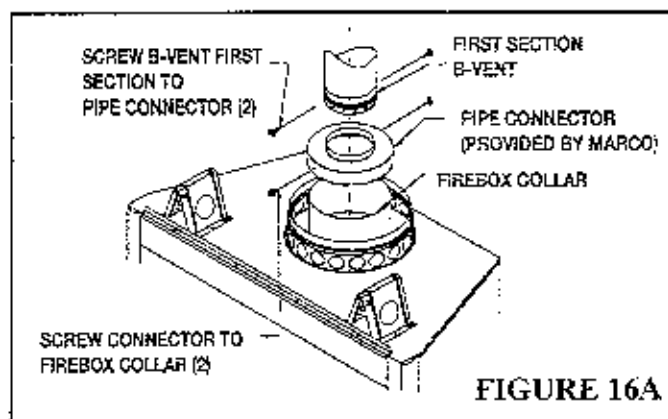

FIGURE 16A
1) BEFORE CONNECTING THE FIRST SECTION OF B-VENT, THE PIPE CONNECTOR PROVIDED WITH THE FIREPLACE MUST BE SECURED TO THE FIREBOX COLLAR WITH TWO 3/4" SHEET METAL SCREWS. (SEE FIGURE 16A.).
2) THE FIRST SECTION OF B-VENT MUST BE SECURED TO THE FIREPLACE PIPE CONNECTOR WITH TWO 3/4" SHEET METAL SCREWS AS SHOWN ON FIGURE 16A.